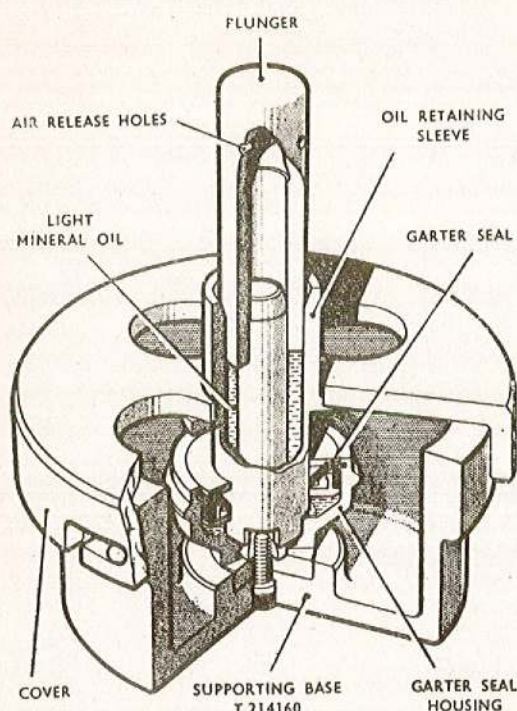

Fig. 9. Removing the garter-seal from its housing
50. The hydraulic extractor tool T.214160 must be used to remove the garter seal from the housing as shown in fig. 9. Place the housing over the stem of the supporting